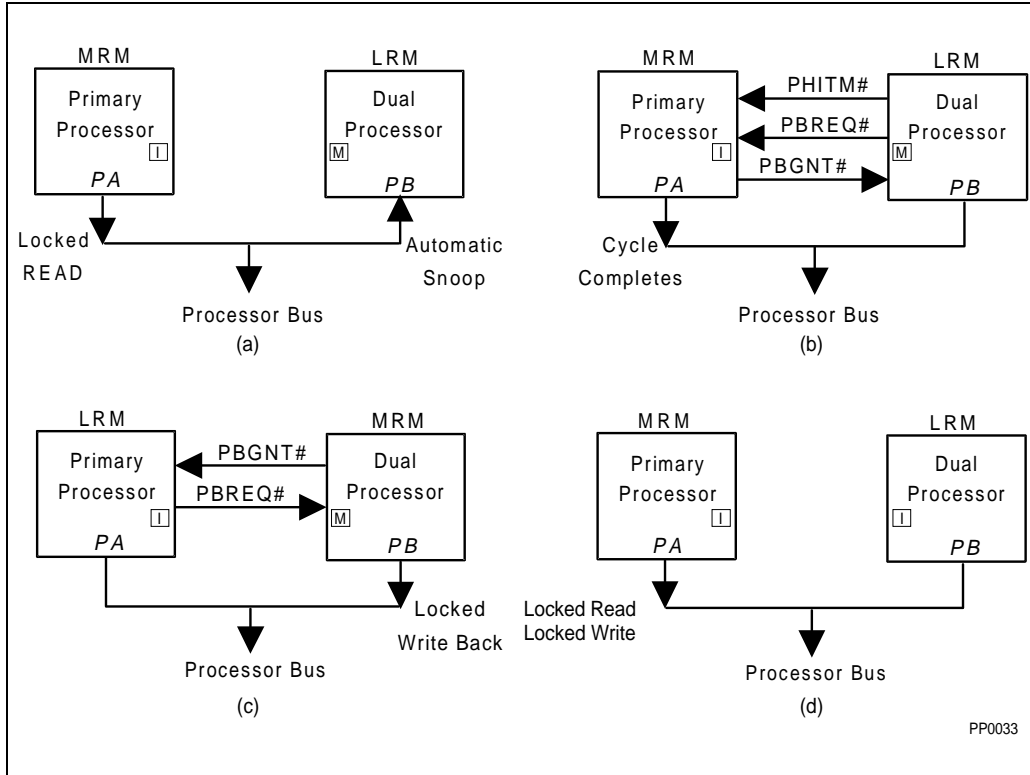

Figure 20-6. DP Cache Consistency for Locked Accesses
2. A locked read to a cache line that is in the shared, exclusive or invalid state is always run on the system bus. The cache line will always be moved to the invalid state at the completion of the cycle. A locked read cycle that is run by the MRM could hit a line that is in the modified state in the LRM. In this case, the LRM will assert the PHITM# signal indicating that the requested data is modified in the LRM data cache. The MRM will complete the locked read, but will ignore the data returned by the system. The components will exchange ownership of the bus, allowing the Modified cache line to be written back with LOCK# still active. The sequence will complete with the original bus owner re-running the locked read followed by a locked write. The sequence would be as shown in Figure 20-6 below.
In Figure 20-6, the small box inside each CPU indicates the state of an individual cache line in the sequence shown above. Diagram (c) of Figure 20-6 shows the locked write back occurring as a result of the inter-processor snoop hit to the M state line.